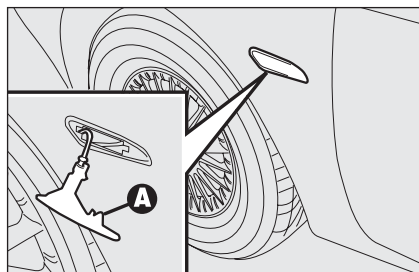

fig. 27
- ☐ push the lens by hand in opposite running direction in order to press the catch **A-fig. 27**. Release the front part and remove the unit;
- ☐ fit the bulb holder **B** into the lens **C** then position the unit, the catch shall click into place **A-fig. 27**.